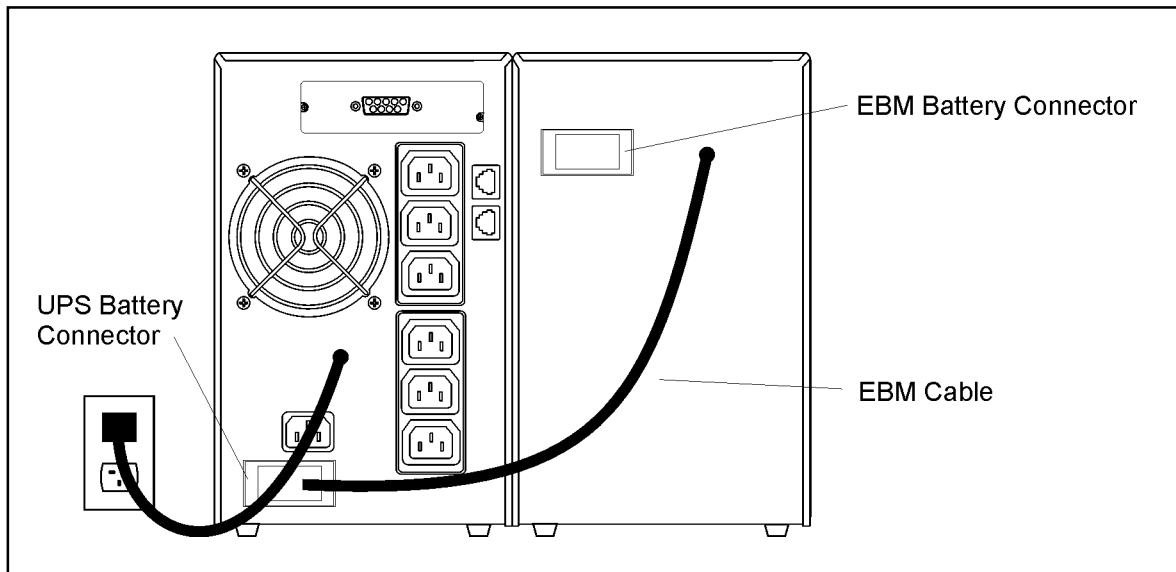

Figure 12. EBM Connections
3. Plug the new EBM into the UPS as shown in Figure 12.